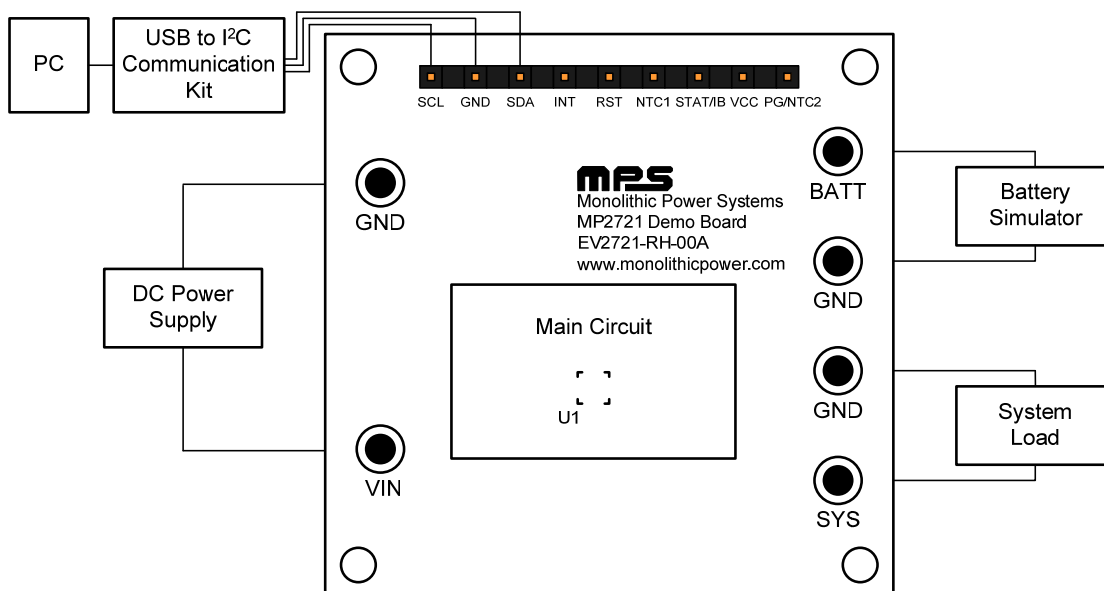

Figure 2: Measurement Equipment Set-Up
3. Configure the test set-up for the MP2721 (see Figure 2 on page 3).